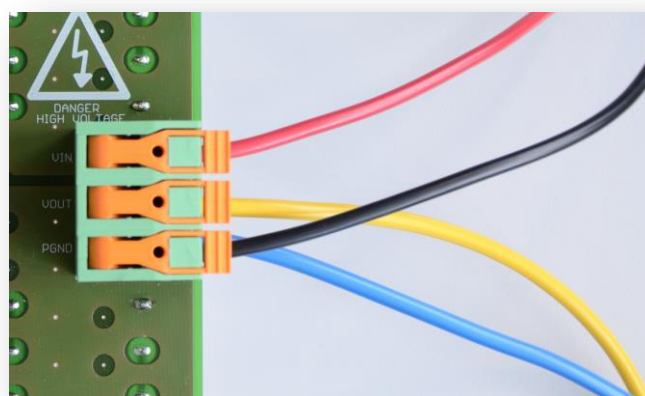

Figure 25 Connections HV domain - buck converter
- ii. Connect DC link supply to *VIN* (+) and *PGND* (-) (see Figure 25 – red & black)
- iii. Connect a voltmeter between *VOOUT* (+) and *PGND* (-)(see Figure 25 – yellow & blue)
If the setup is working stable a DC load can be connected to *VOUT* (+) and *PGND* (-)(see Figure 25 – yellow & blue). Please keep in mind that when running the system with a DC load a shutdown procedure without a huge load step is recommended: